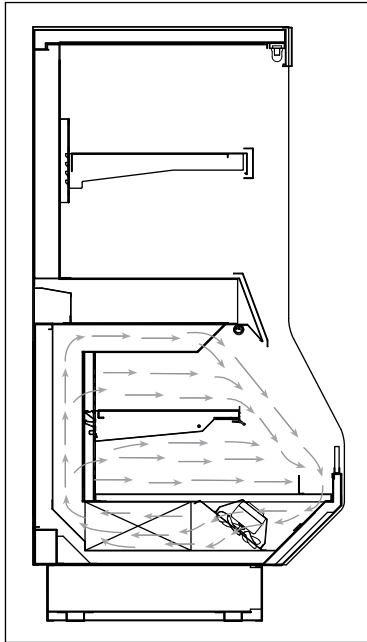

Fig. 17 Airflow pattern
It is important that you do not overload the food product display so that it impinges on the airflow pattern (Fig. 17). Overloading will cause malfunction and the loss of proper temperature levels.
2. Remove the top two screws at both ends of the coil cover (Fig. 20), as well as the screws from the top ends and front sill of the pressure plate cover (Fig. 17). **Be sure to save the removed screws for reassembly.**